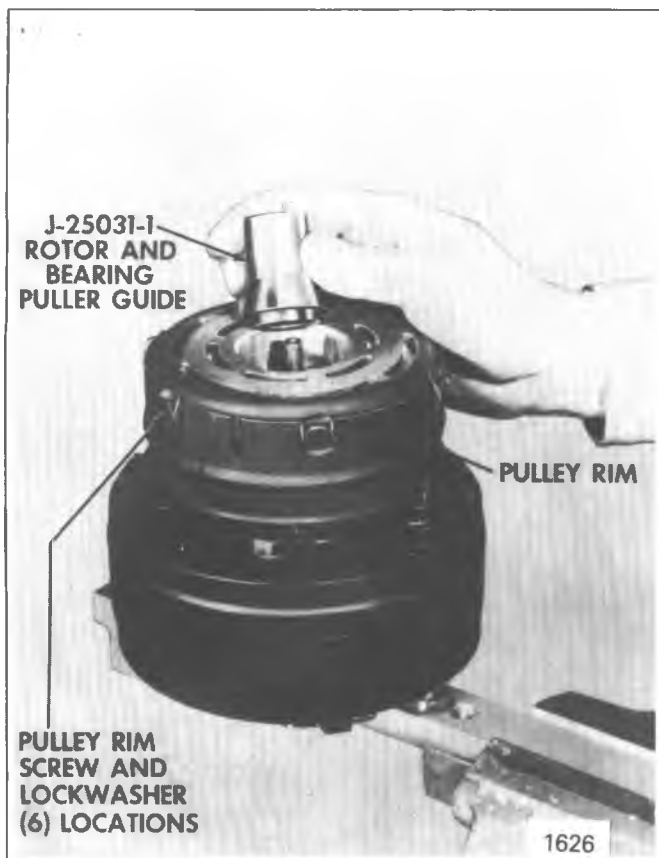

Figure 1D-82 Installing R-4 Rotor and Bearing Puller Guide
2. Align the new bearing squarely with the hub bore and using Pulley and Bearing Installer J-9481 with Universal Handle J-8092, drive the bearing fully into the hub (Figure 1D-86). The Installer will apply force to the outer race of the bearing.